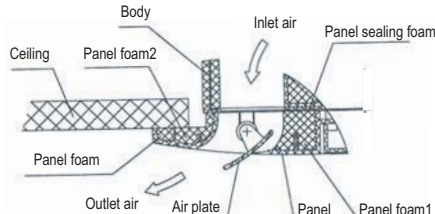

Fig.5-12
- Keep fastening the screws under the panel hooks, until the thickness of the sponge between the body and the panel's outlet has been reduced to about 4~6mm. The edge of the panel should contact with the ceiling well. (Refer to Fig.5-12)